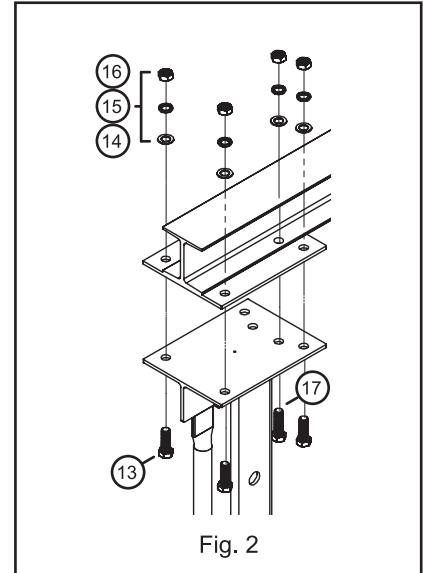

Fig. 2
Step 2: Bolt the Vertical Support Assemblies to the I-Beam, Fig. 2. *Hand-tighten* four M12x35mm Bolts (13), M12 Flat Washers (14), M12 Lock Washers, (15) and M12 Nuts (16) on the outside corners of the two flat plates. Place two M12x45mm Bolts (17), M12 Flat Washers (14), M12 Lock Washers, (15) and M12 Nuts (16) on the inside and which pass through the I-Beam.
Hand-tighten only. Repeat for the other Vertical Support Assembly. Once all fasteners are installed as shown in Fig. 2 and hand-tightened, use a torque wrench and tighten the fasteners to between 55 and 65 ft-lbs (75 to 88 Nm). Start with the two M12x45mm Bolts (17), then tighten the four M12x35mm Bolts (13) in a cross tightening X-pattern.